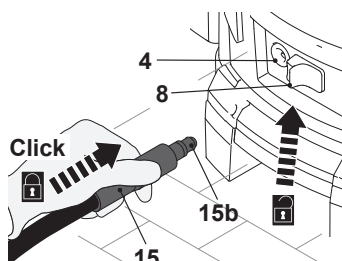

Fig. 7
- > Insert the other connector (15b) of the pressure hose (15) into the water outlet (4). Ensure it snaps in place (Fig. 7). Press the release button (8) to unlock if necessary.